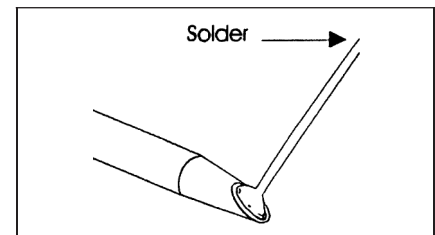

Figure 2 Apply Solder to Tip
5. Apply solder to the face of the tip to cover approximately 1/2 of the face, keeping the solder down toward the end of the tip, and add about the same amount to the top end of the tip, also at the heel. The precise amount of solder will vary between different types of components. (See Figure 2.)